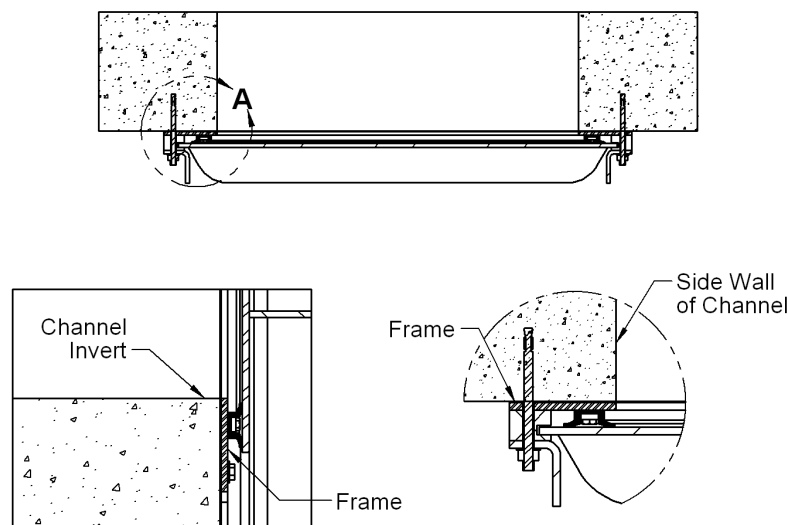

Figure 1
- Position the weir gate against the wall and line up with the channel (see Figure 1).